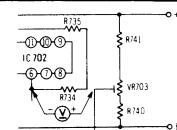
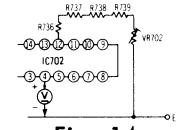
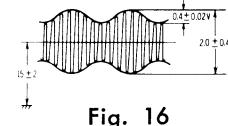

Fig. 13
Fig. 14
Fig. 16
<p>E Capstan motor circuit adjustment Condition: * Playback mode Equipment: * VTVM * Oscilloscope</p>	<p>A. Standard DC power supply voltage adjustment</p> <ol style="list-style-type: none"> Measure the DC voltage between central point of VR703 and ⑥ terminal of IC702 as shown in fig. 13. <p style="border: 1px solid black; padding: 5px; text-align: center;">Standard voltage: 0 ± 0.05 V</p> <ol style="list-style-type: none"> If measured voltage is not within standard, adjust VR703. <p>B. Phase lock point adjustment</p> <ol style="list-style-type: none"> Measure the DC voltage between ④ terminal of IC702 and ground as shown in fig. 14. <p style="border: 1px solid black; padding: 5px; text-align: center;">Standard voltage: 5.2 ± 0.1 V</p> <ol style="list-style-type: none"> If measured voltage is not within standard, adjust VR702. <p>C. Position detecting signal output level adjustment</p> <ol style="list-style-type: none"> Connect oscilloscope to test point (T.P [P-V]). Measure the peak-to-peak voltage of position detection signal of test point with the oscilloscope. If the measured signal voltage is markedly different from the voltage shown in fig. 16, make the necessary adjustment with the VR701.